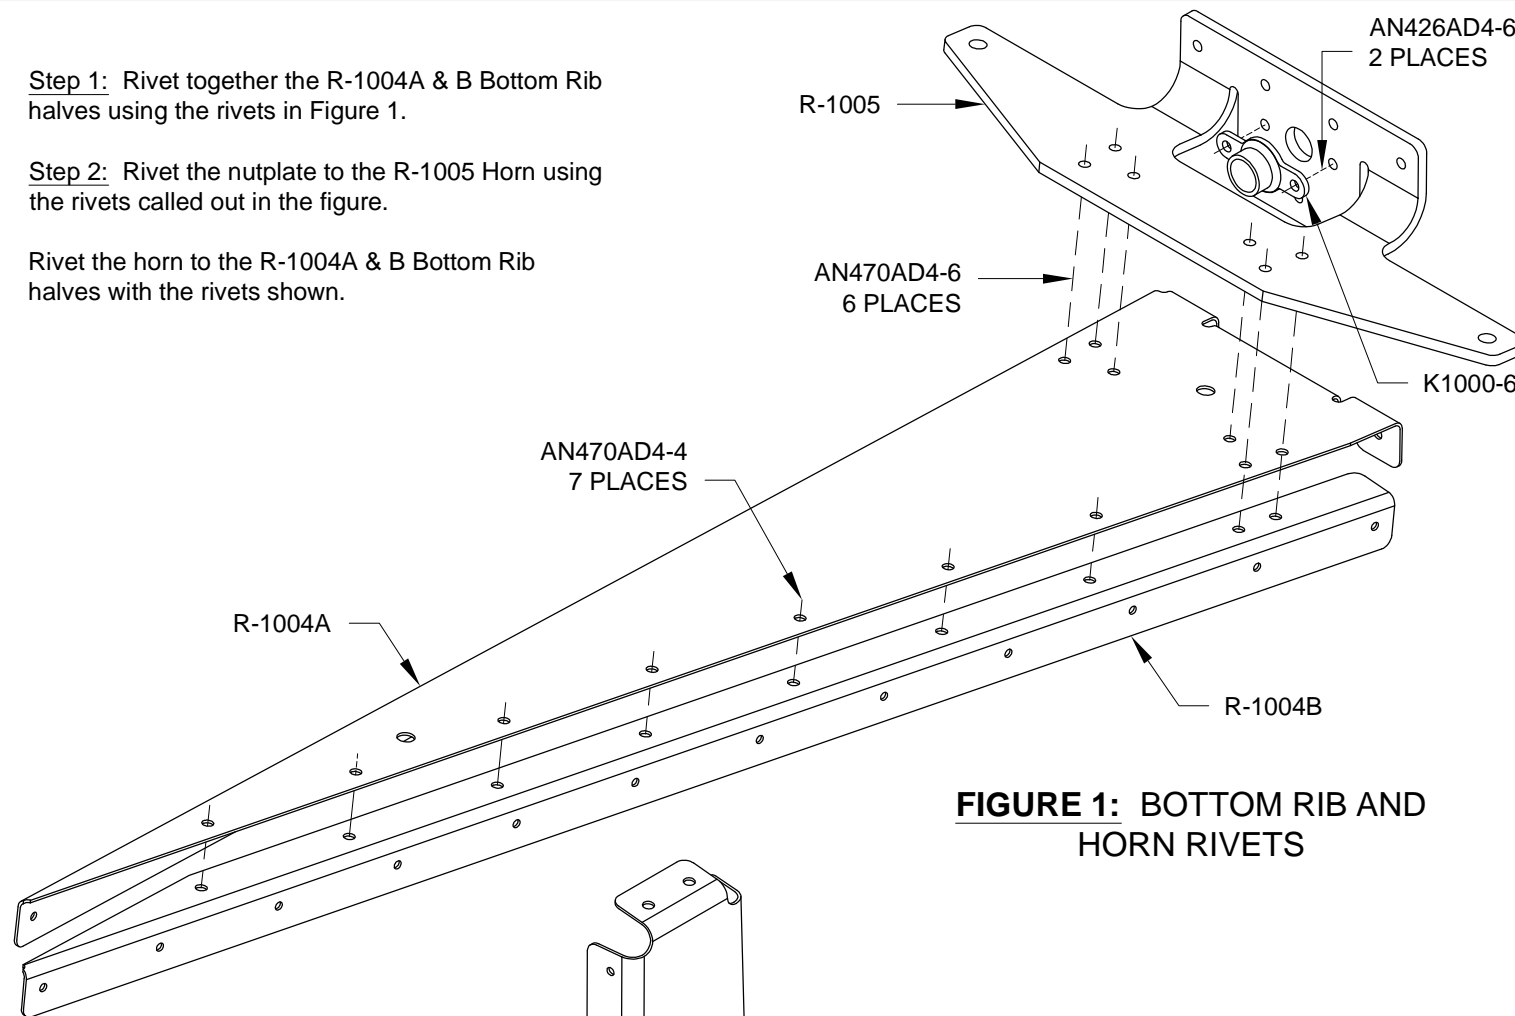

FIGURE 1: BOTTOM RIB AND HORN RIVETS
Step 1: Rivet together the R-1004A & B Bottom Rib halves using the rivets in Figure 1.